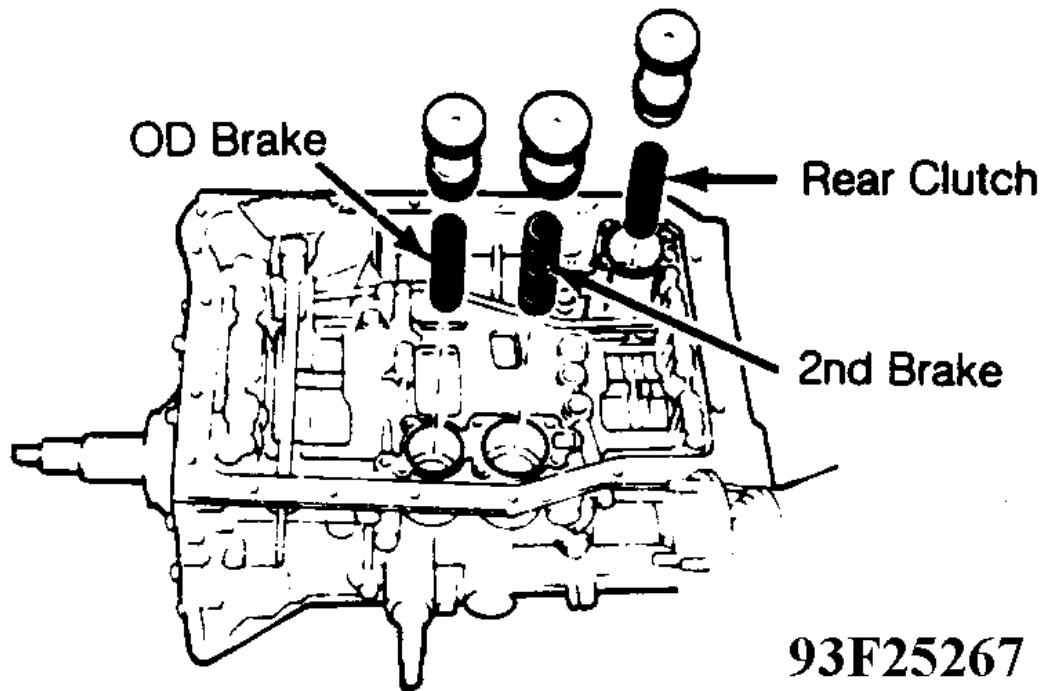

Fig. 55: Exploded View Of Accumulators & Springs
36. Install rear clutch, OD brake and 2nd brake accumulator pistons and springs. See **Fig. 55** . Install NEW "O" rings on pistons. Install pistons and springs into the transmission case bores. Refer to the specifications in the **ACCUMULATOR PISTON SPECIFICATIONS** table and **ACCUMULATOR SPRING SPECIFICATIONS** table.